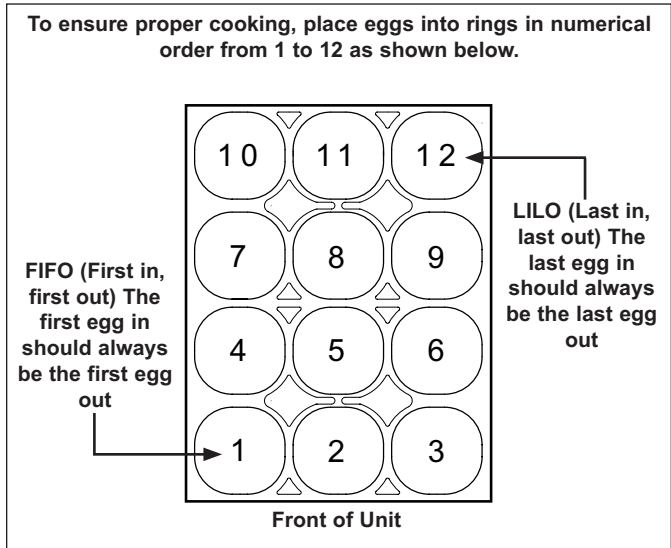

Figure 1. Egg Cooking Procedure
5. Crack the eggs into the Egg Rings from right to left as shown in Figure 1 below, starting at the row closest to the front of the unit.